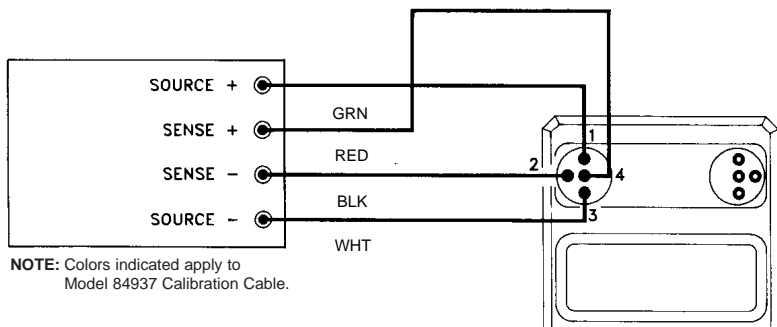

Figure 10. 4-Wire Resistance Simulation
6. Hook up test-equipment, calibration cables, and U.U.T. per Figure 10.